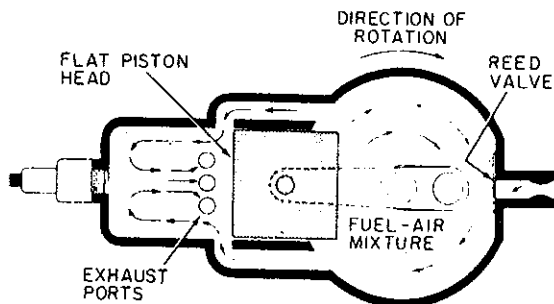

Figure 4. Loop scavenge engine with reed valve.
- A. Figure 4 illustrates the loop scavenge design